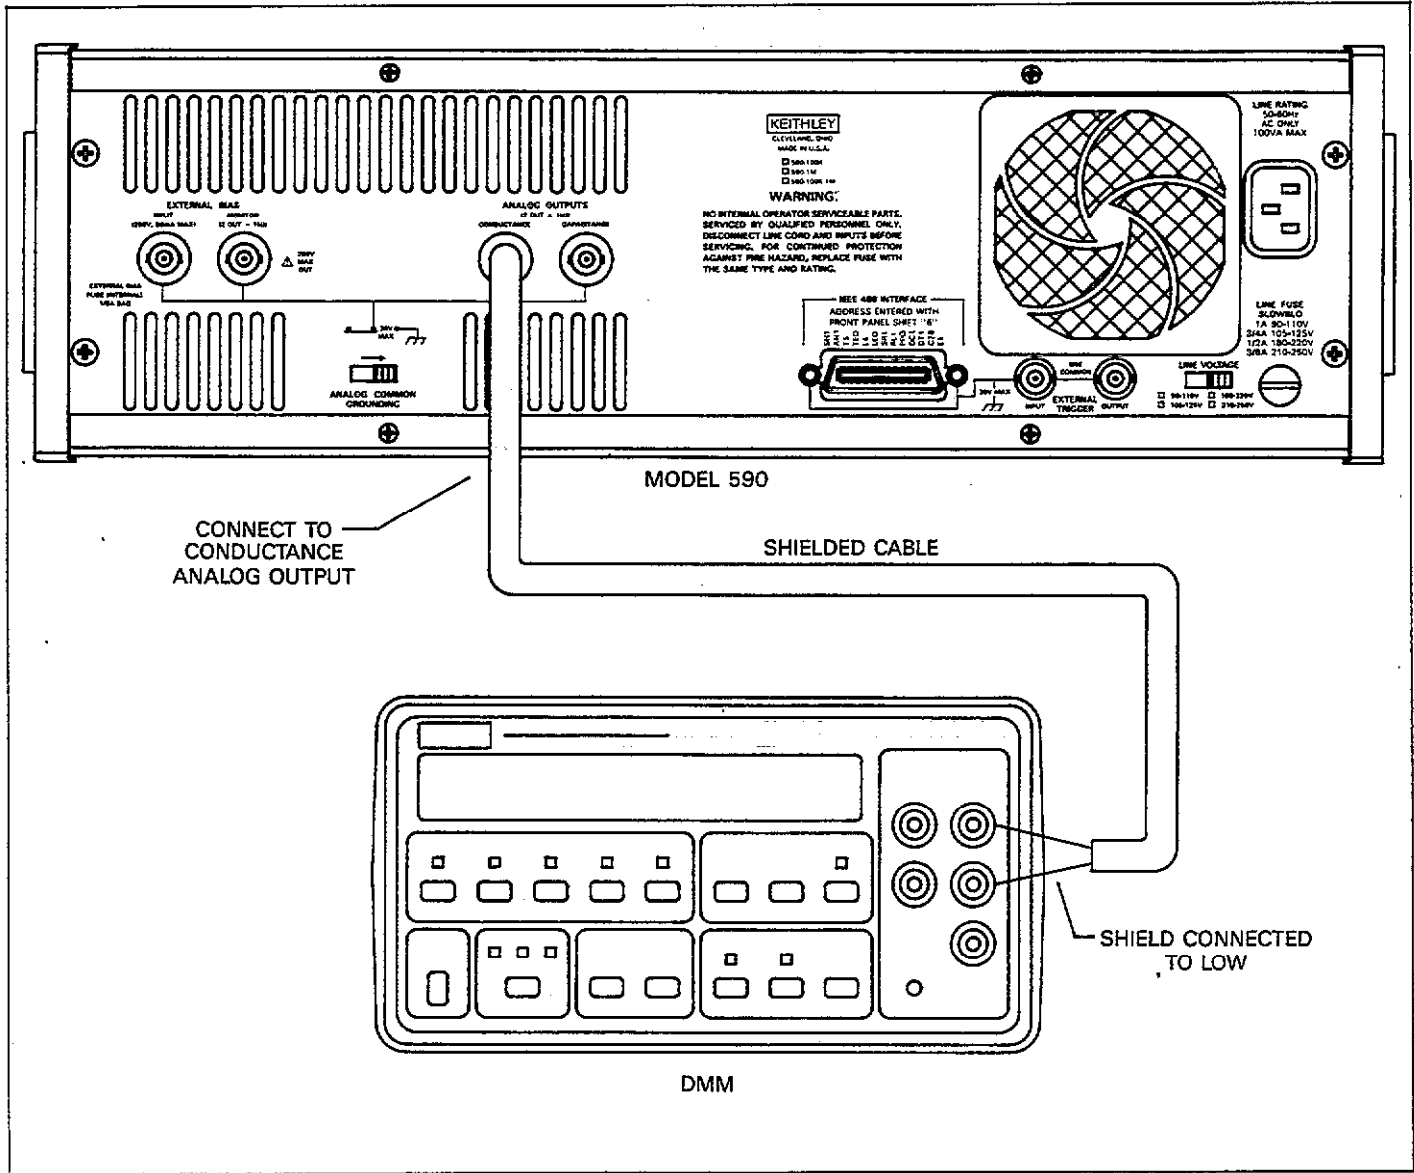

Figure 5-5. Connections for Analog Output Conductance Verification
3. Connect the DMM to the CONDUCTANCE ANALOG OUTPUT jack on the rear panel, as shown in Figure 5-5. The DMM high terminal should be connected to the center conductor, and the low terminal should be connected to the cable shield. Select the DCV function and autoranging.